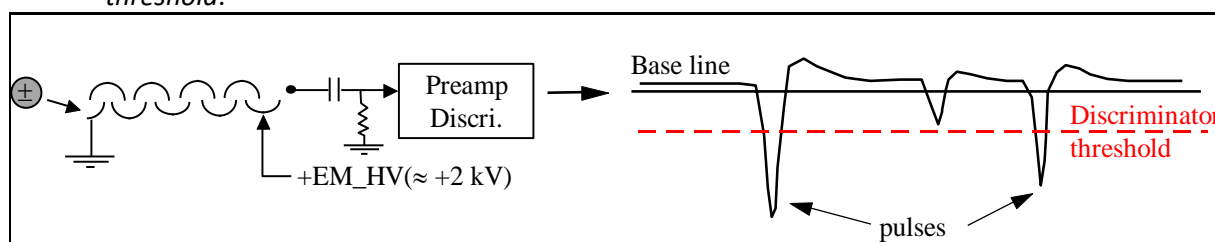

Figure 86: Pulses detected at the EM output
- The EM detection channel. The first electrons produced by the first dynode when impinged by an ion are amplified by the successive stages within the electron multiplier with a gain in the range of  $10^8$  (EM gain). As it is displayed on a PHD distribution curve, the pulses detected at the EM output do not have all the same amplitude (Figure 86). A preamplifier converts the charge pulses into voltage pulses and amplifies them. Then, a discriminator selects the pulses larger than a given *threshold*.